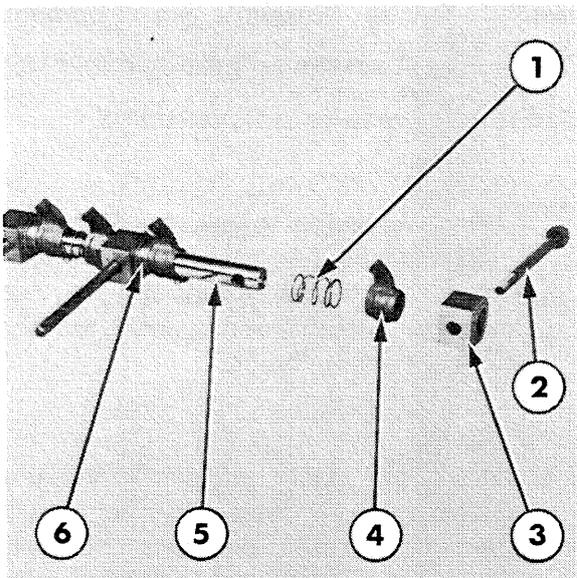

Figure 10
5. Remove the cylinder head bolts which pass through the rocker shaft supports and slide the rocker shaft components from the shaft, Figure 10.